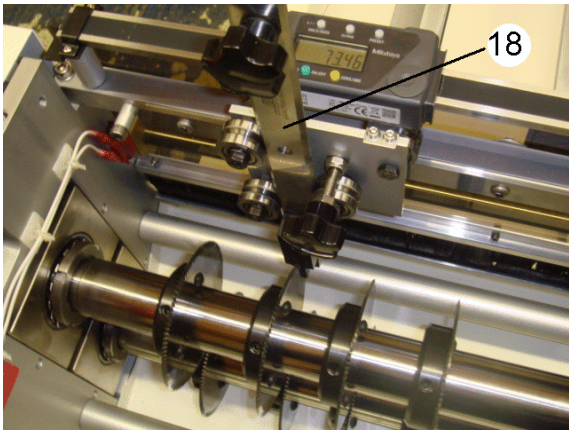

Figure 3
- Remove the PCB from the carriage support arms and manually push the carriage into the cutter housing mechanism until pin is directly in line with the cutter positioning tool (Figure 3, pointer 18). Slide the cutter positioning tool mechanism along the beam until it is directly over the tooling pin, lower it to engage with the pin on the support arm. Switch on the Mitutoyo LCD by pressing ON/ZERO.
- Lift the positioning tool free of the tooling pin and return the carriage to the start position manually. Release the cutter securing screw and locate the cutter in the slot of the positioning tooling device. (Figure 3).